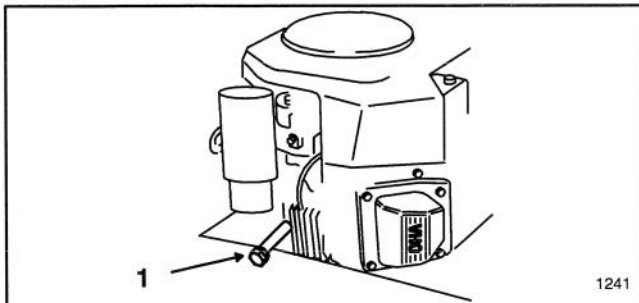

Figure 14
2. Turn engine off and place drain pan under frame, below drain plug (Fig. 14). Remove drain plug and allow all oil to flow into drain pan. Install drain plug after oil stops flowing.